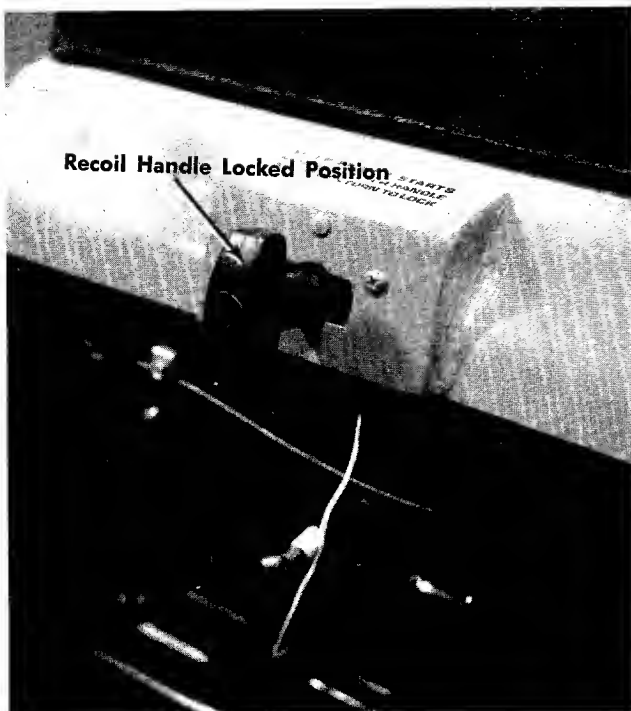

FIGURE 8. RECOIL HANDLE
Recoil Model. The key must be turned to the ON position before you pull the recoil handle to start the engine. Remove the key when the mower is not in use. Turn the key to the left to the OFF position to stop the engine. See figures 8 and 9.
6. Turn the ignition key to the ON position. Twist the recoil starter handle until it is free and pull it with a quick steady motion. After the engine starts, return the recoil starter handle. Twist it until it locks. See figures 8 and 9.